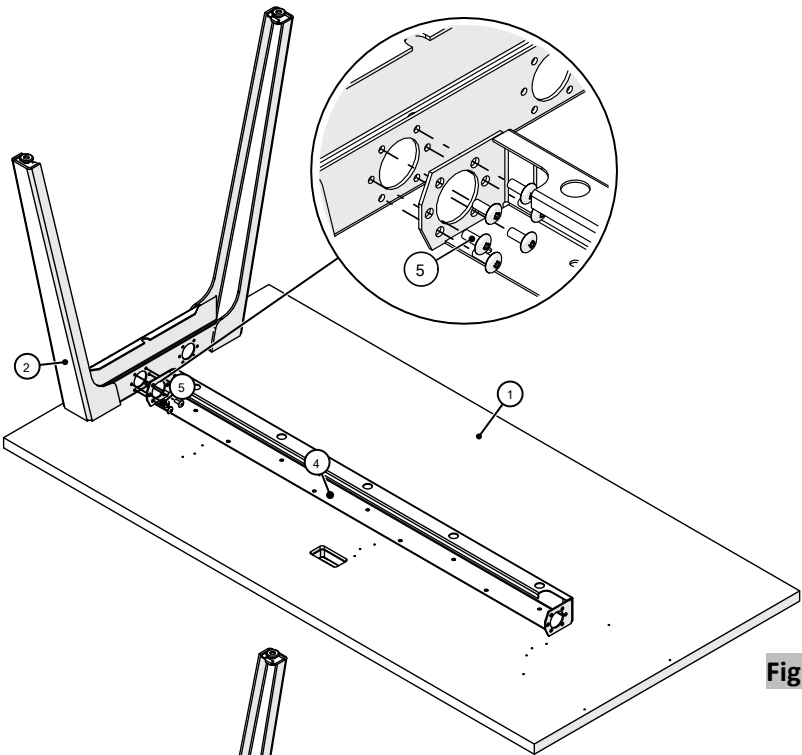

Figure 3
- 4. Attach the table support beam to A-Leg using the (6) 1/4-20 x 5/8", Truss Quad Screw, (Figure 3).